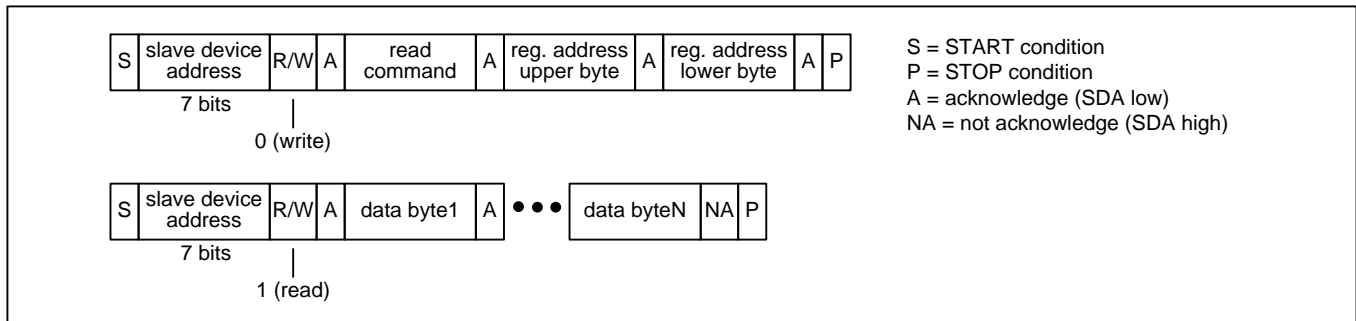
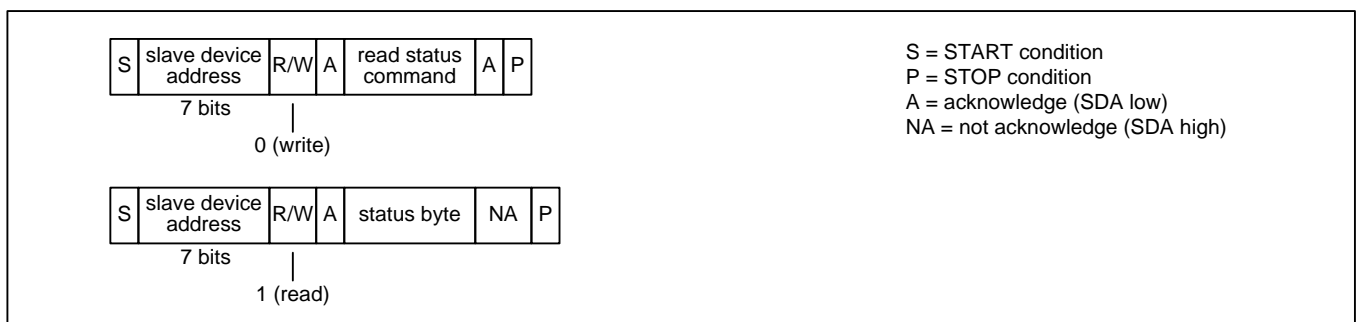

Figure 10 – I²C Read Transaction Functional Timing
Figure 13 – I²C EEPROM Read Status Transaction Functional Timing (ZL30245 Only)
Read Transactions. The device registers are accessible when `EESEL=0`. On a ZL30245 the internal EEPROM memory is accessible when `EESEL=1`. On ZL30244 `EESEL` must be set to 0. The bus master first does an I²C write to the device. In this transaction three bytes are written: the SPI Read command (see Table 3), the upper byte of the register address, and the lower byte of the register address. The bus master then does an I²C read. During each acknowledge (A) bit the device fetches data from the read address and then increments the read address. The device then transmits the data to the bus master during the next 8 SCL cycles. The bus master terminates the read with a not-acknowledge (NA) followed by a STOP condition (P). See Figure 10. Note: If the I²C write is separated from the I²C read by other I²C transactions then the device only outputs the data value from the first address and repeats that same data value after each acknowledge (A) generated by the bus master.
EEPROM Read Status (ZL30245 Only). The bus master first does an I²C write to transmit the SPI Read Status command (see Table 3) to the device. The bus master then does an I²C read to get the status byte. In this byte, the least significant bit is set to 1 if the transfer is still in progress and 0 if the transfer has completed. See Figure 13.
Note: In Figure 10 through Figure 13, a STOP condition (P) immediately followed by a START condition (S) can be replaced by a repeated START condition (Sr) as described in the I²C specification.